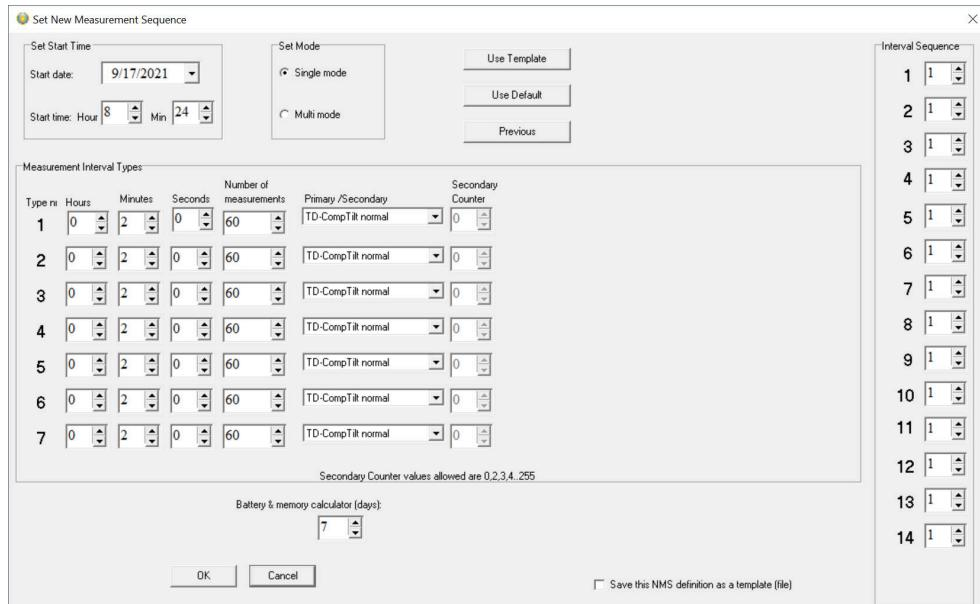

Figure 7.7: Setting new Measurement Sequence (with multiple intervals)
**Interval Sequence 1-14** The interval sequence must be filled out. As shown in figure 7.7, the user selects to use intervals 1-6 for the recordings. Another example: Suppose two of the first sampling intervals are used.